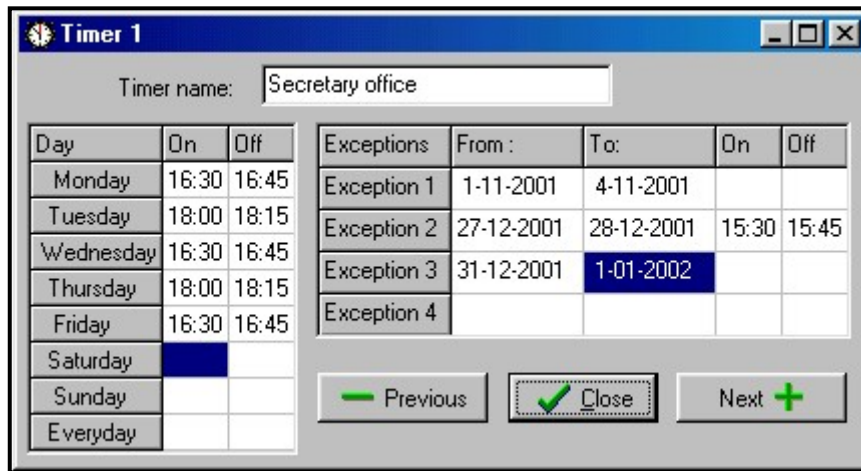

Fig. 4. Timing for *Steered by timer* partition.
- **Access according to timer** – the partition is controlled by the user, but partition arming and disarming may be carried out only within time periods determined by selected timers. The partition cannot be armed or disarmed in time periods other than those determined by timers. For example, if the timer shown in Figure 4 is selected to control access to the "Secretary office" partition, the partition arming / disarming will be possible according to schedule – on Monday between 16:30 and 16:45, on Friday between 18:00 and 18:15 and so on, except for the time periods given in the timer exception table.